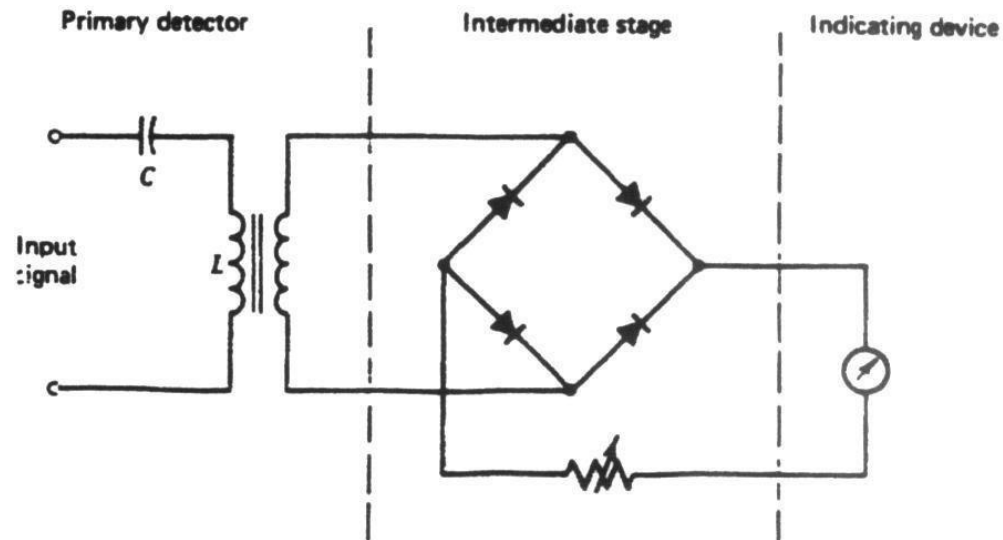

Fig. 3 Basic wave analyzer circuit
- A very basic wave analyzer is shown in Fig. 3. The primary detector is a simple LC circuit which is adjusted for resonance at the frequency of the particular harmonic component to be measured. The intermediate stage is a full-wave rectifier, and the indicating device may be a simple dc voltmeter that has been calibrated to read the peak value of a sinusoidal input voltage.
- Since the LC filter in Fig. 3 passes only the frequency to which it is tuned and provides a high attenuation to all other frequencies. many tuned filters connected to the indicating device through a selector switch would be required for a useful wave analyzer.